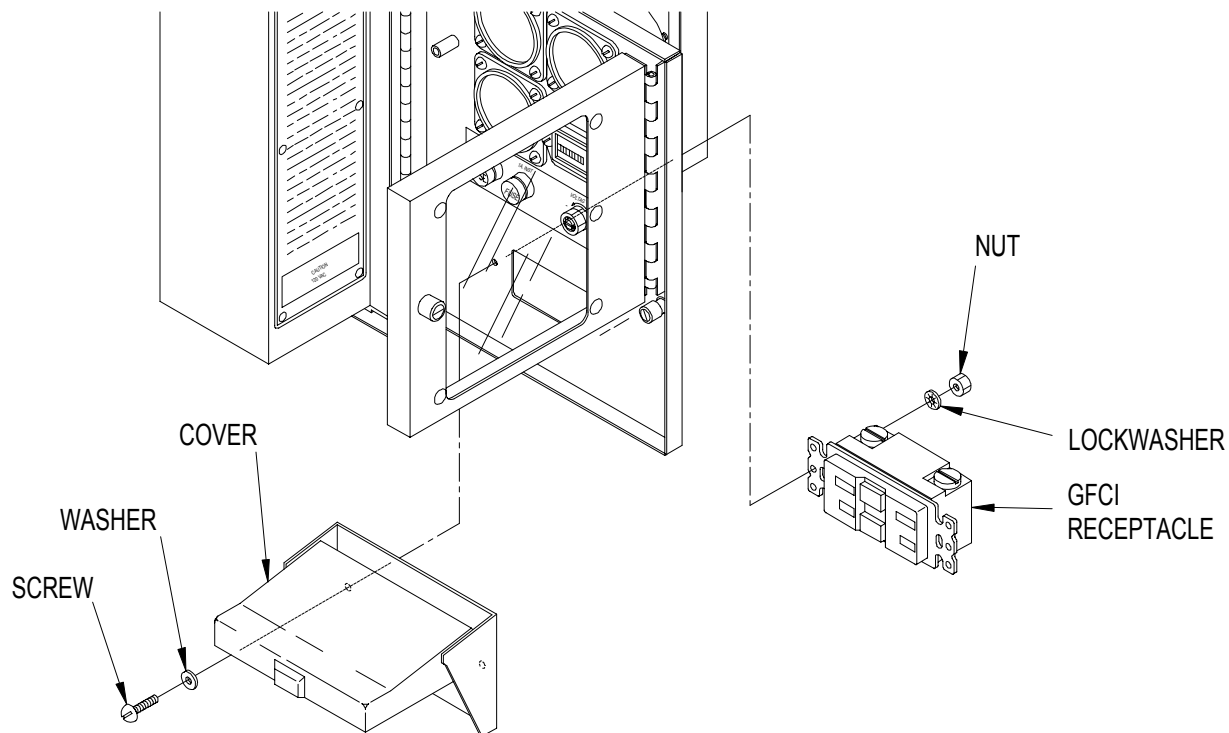

Figure 4-33. GFCI Receptacle and Receptacle Cover (MEP-531A)
(1) Shut down generator set.
(2) Release instrument panel by turning fastener, open instrument panel slowly.
(3) Tag and disconnect GFCI receptacle (Figure 4-33) electrical leads.
(4) Set multimeter for ohms and check for continuity between side terminals of each plug outlet.
(5) Replace GFCI receptacle if continuity is indicated between terminals.
(6) Connect electrical leads to receptacle and remove tags.
(7) Close and secure instrument panel.
- (1) Insert GFCI receptacle (Figure 4-33) into instrument panel.
- (2) Position cover over GFCI receptacle and secure both with washers, screws, lockwashers, and nuts.
- (3) Connect electrical leads and remove tags.
- (4) Close and secure instrument panel.